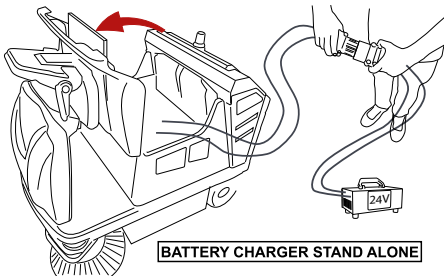

fig. 26
- plug the battery connector into the charger (fig. 26).